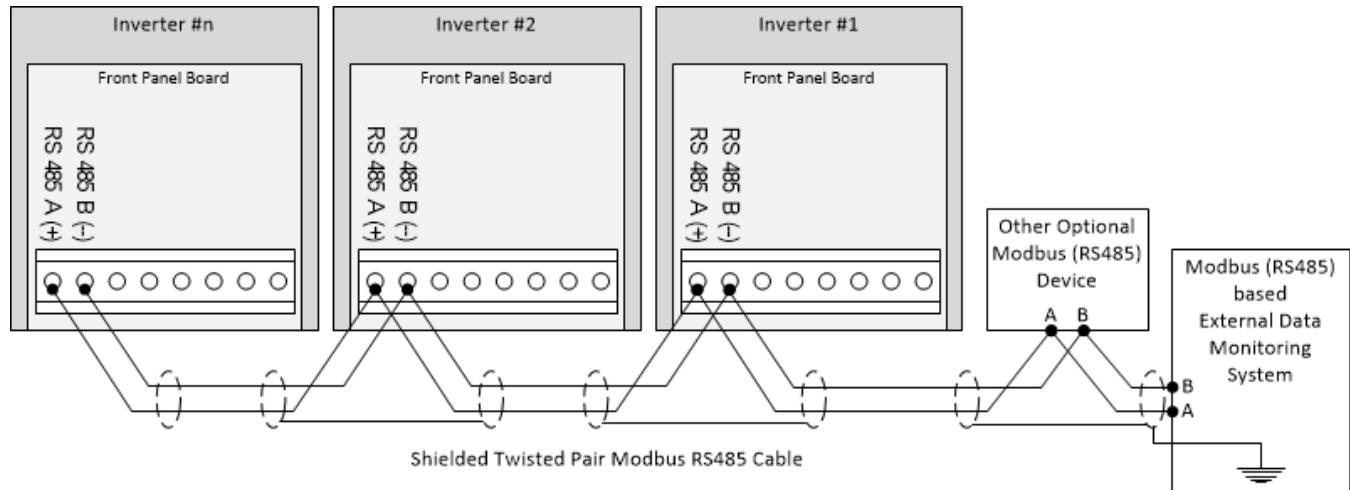
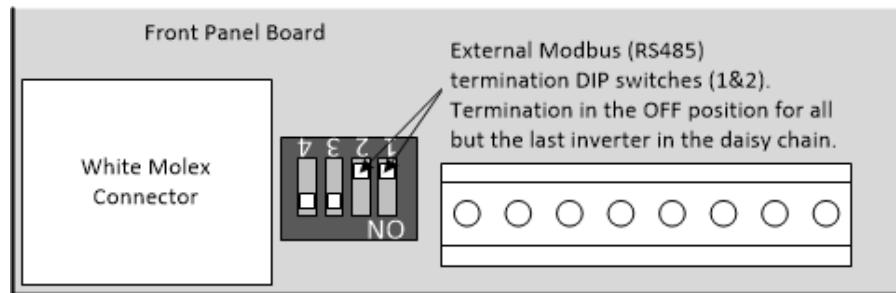
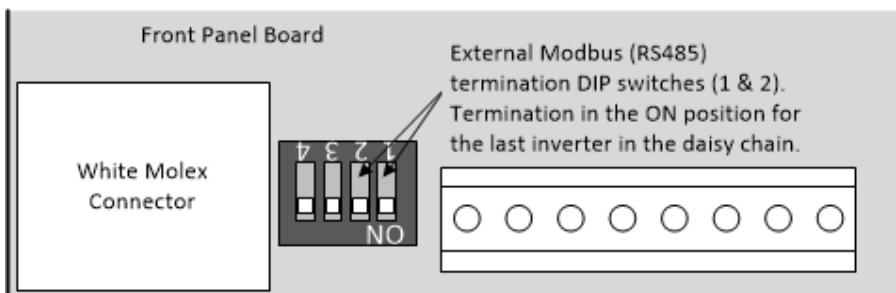

Figure 7.8 – Typical External Data Monitoring System Modbus Connections
Figure 7.11 – External Modbus (RS-485) Termination Switches 1 and 2 in the OFF Position
Figure 7.12 – External Modbus (RS-485) Termination Switches 1 and 2 in the ON Position
2. Connect the RS-485 wires to the A and B terminals on the front SolrenView board as shown in Figure 7.8. Torque the terminals to 4in-lbs.
3. The shields between the different cable legs need to be connected together to ensure shield continuity as shown in Figure 7.8. Do not connect the shield to the ground terminal on the SolrenView DAS.
It is important that the Modbus be terminated correctly in order to minimize any bus reflections that could cause communications disruptions. The Solectria inverters provide DIP switches that allow one to turn the bus termination ON or OFF. The default setting from the factory has the external Modbus (RS-485) terminations turned OFF. The default OFF setting is appropriate for inverters that are in the “middle” of the daisy chain, where bus termination is not required (e.g., inverter #1 and #2 in Figure 7.8 above). Any inverter that is not at the end of the daisy chain should use the factory default setting with the termination turned OFF as shown in Figure 7.11.
As seen in Figure 7.11, the external Modbus (RS-485) termination switches (1 and 2) are in the OFF position (facing away from the edge of the board). Switches 3 and 4, closest to the white Molex connector, should be in the ON position towards the edge of the board.
If the inverter happens to be the last device in the Modbus (RS-485) daisy chain (where the bus physically ends) the external bus termination has to be turned ON (e.g., Inverter #n in Figure 7.8 above). That is done by pushing DIP switches 1 and 2 towards the edge of the board. Switches 1 and 2 are the two DIP switches that are further away from the white Molex connector, as shown in Figure 7.12.